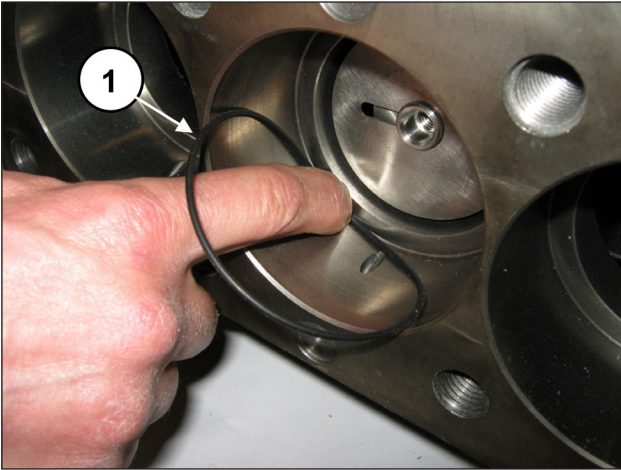

Fig. 170
Remove the seal support bottom O-ring should it remain inside the pump casing (pos. ①, Fig. 170).